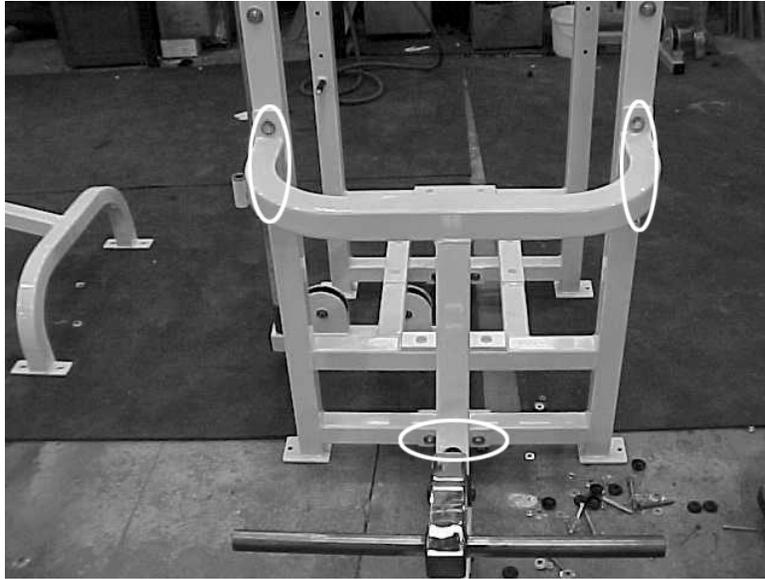

**Figure 12. Bolt the floating pulleys into the crossover 190 lb weight stacks.**
6. **Bolt the floating pulleys into the 190 lb weight stacks** used for the crossovers using a 7/8" combination wrench. You will need to remove the pulley from the housing to thread the plug into the weight stack bayonet. Make sure the 9/16" jam nut is threaded 1-5/8" away from the pulley as shown in Figure 12. Leave the pulleys out since you will need to have them out when the cable is routed.